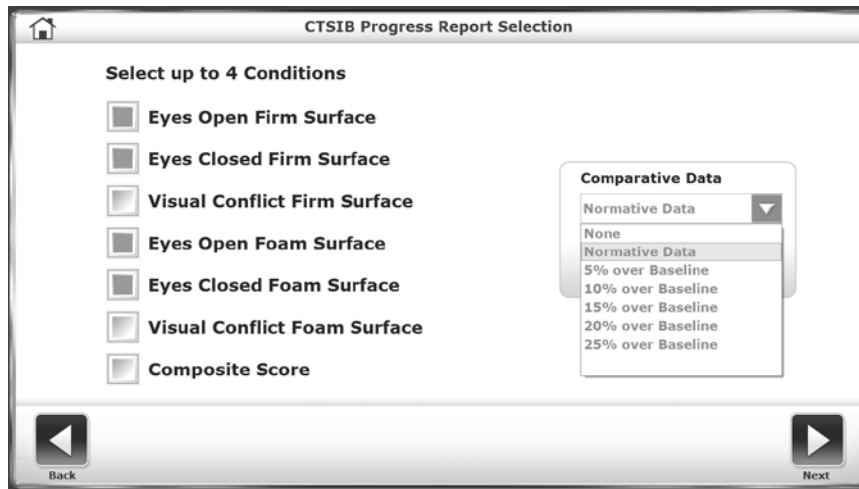

Figure 7.8. Selecting Data for a Progress Report.
5. Set the type of Comparative Data. The default is normative data. If a baseline test is available, a percentage over the patient's baseline score can be selected (see Figure 7.8).